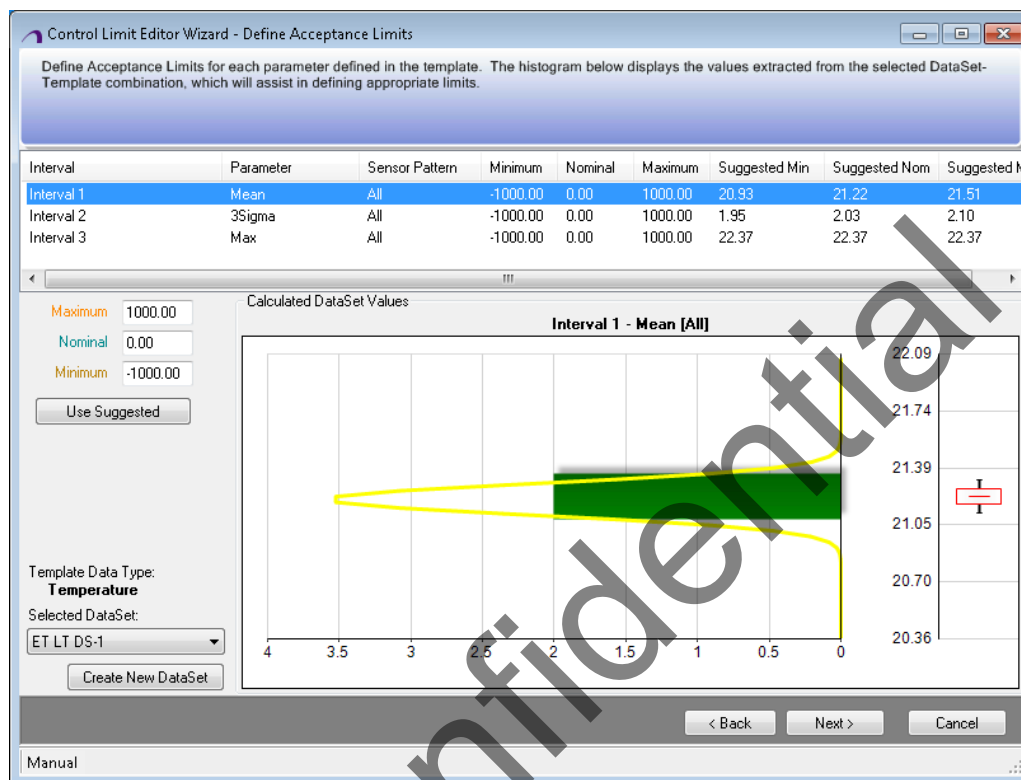

Figure 6-7 Control Limit Editor Wizard - Define Acceptance Limits window
4. Select the required template from the **Available Templates** list, for which the control limit is to be created. Click the **Next >** button, you can see the **Control Limit Editor Wizard - Define Acceptance Limits** window opens, as shown in Figure 6-7.